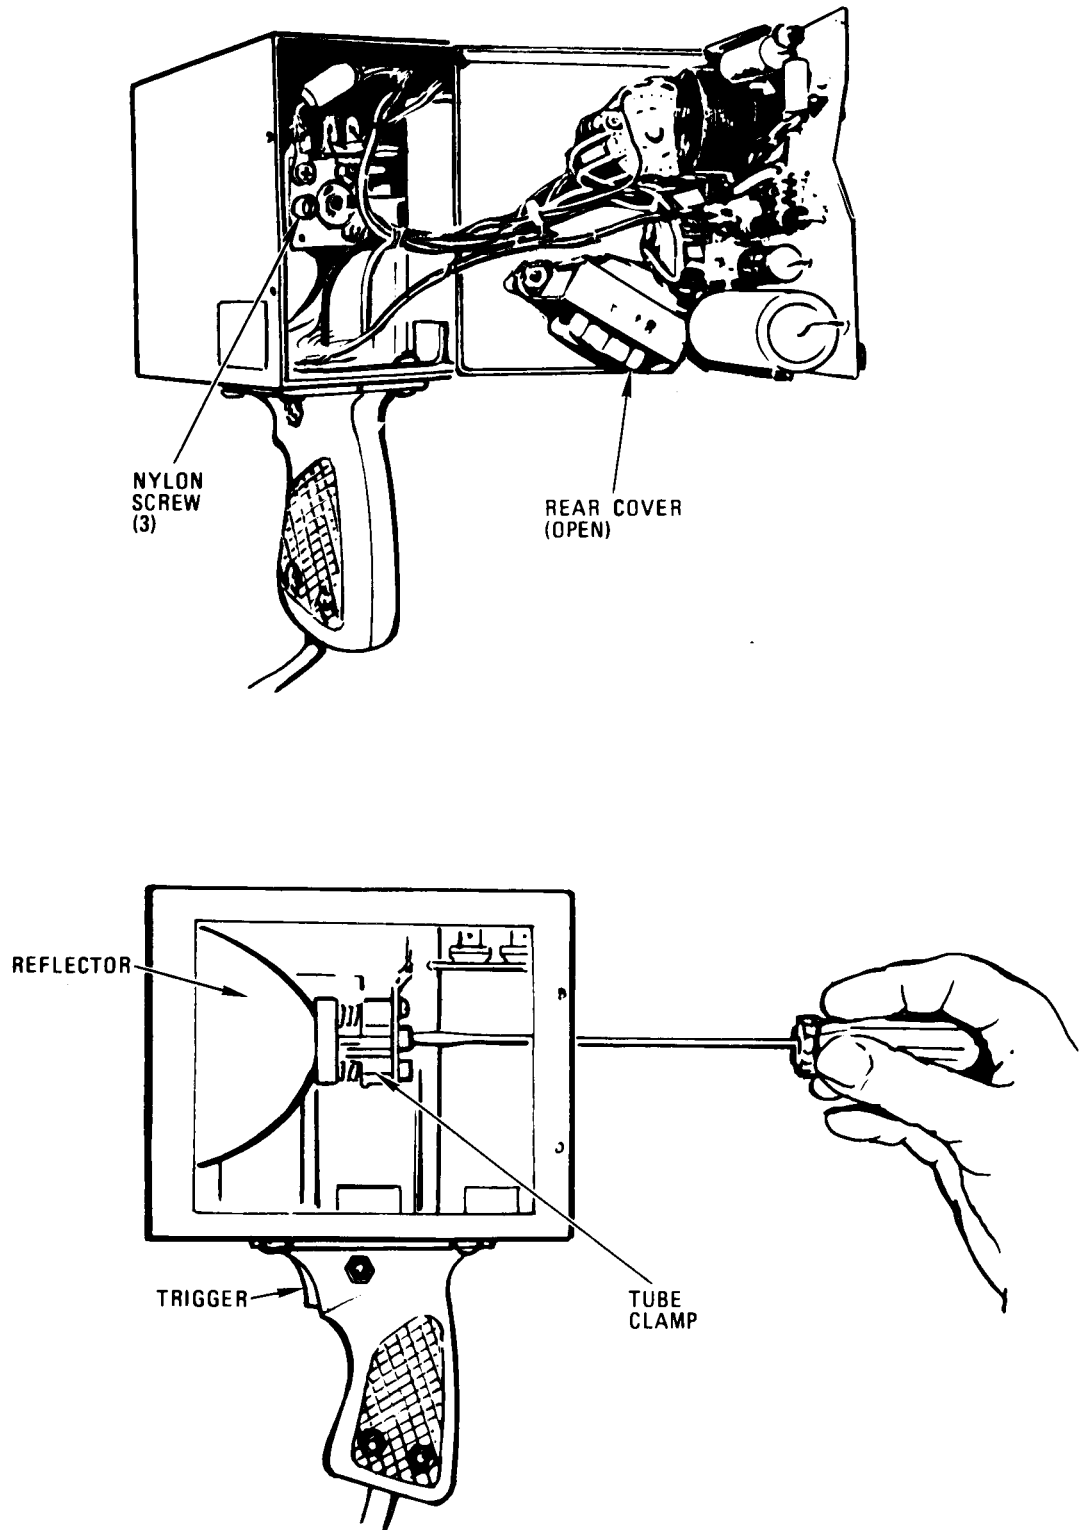

Figure 3-8. Strobex Focus Adjustment
- (5) Direct lamp at ground and observe a bright 3 to 4 inch diameter spot of light or at a nearby (10 to 20 feet) flat surface and observe a bright 10- to 15- inch diameter spot of light. If the spot of light is not as required., pm-form the following focus instructions:
- (b) Open rear cover (fig. 3-8).